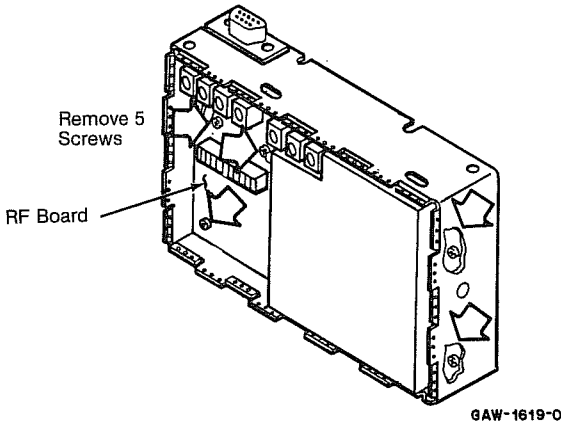

Figure 13
(1) First remove the power amplifier heat sink. Then remove all the RF board mounting screws and take out the RF board (Figure 13).